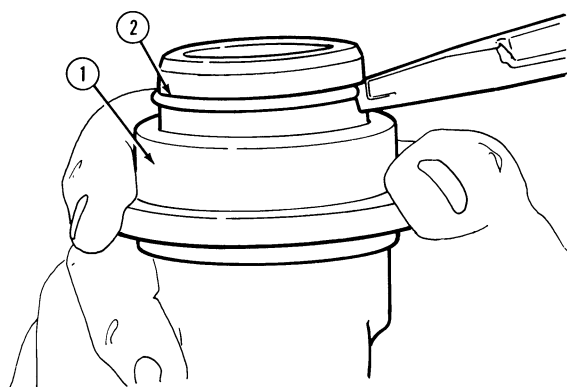
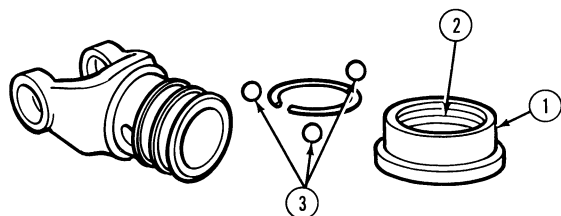

Figure 4
Figure 5
2. Depress the lock collar (1), Figure 4, and remove the snap ring (2). Remove the lock collar (1), compression spring (2) and balls (3), Figure 5. Examine all parts for nicks or burrs. Replace parts as required.
1. Install the balls (3), Figure 5, compression spring (2), and lock collar (1). Compress the spring with the lock collar and install the snap ring.